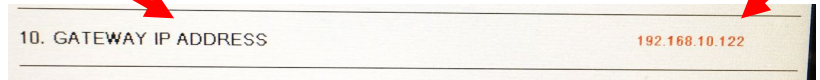

Figure 26
21. The **GATEWAY SOFTWARE VERSION** and **GATEWAY IP ADDRESS** are shown. The **GATEWAY SOFTWARE IP ADDRESS** should have some numbers that are **NOT ALL ZEROS** (see Figure 26). **NOTE: The IP address may be different than shown below.** If only zeros are shown, power cycle the entire fryer battery and wait 5-10 minutes before checking the software version and IP